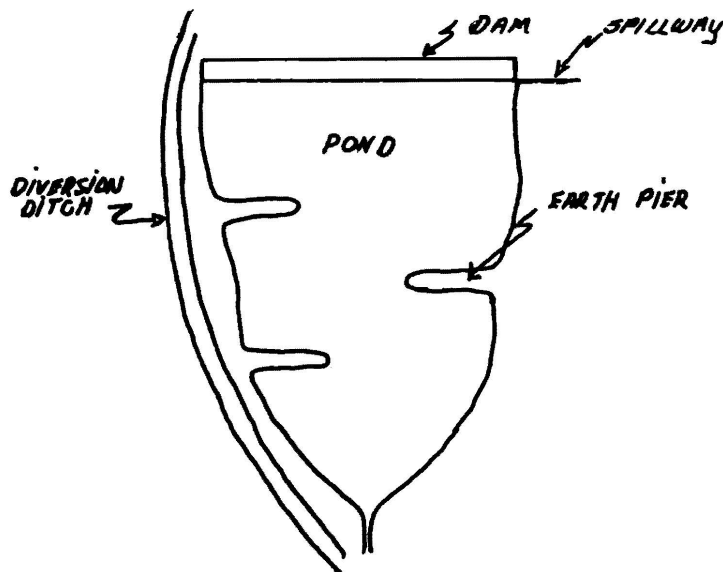

FIGURE 2
2. The pond edges should be deepened to at least two feet to prevent excessive growth of rooted aquatic weeds after the pond has filled. Any extra soil may be used to construct earthen piers, thereby increasing fishermen access to the pond (Figure 2). All pond edges and piers should be sodded with a suitable permanent species of grass.